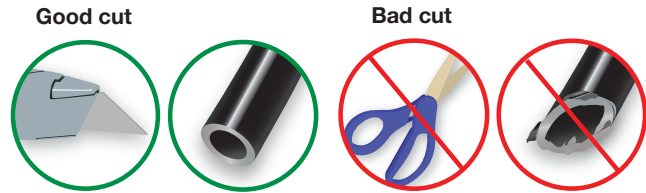

Fig. 18
- For nylon air line (\*), it is recommended that the air line be routed along the top of the frame, forward of the axle, then down to the fitting. After cutting the air line to length, install the air line thermal sleeve over the air line on the passenger's (right) side before inserting into the fitting. Secure the air lines to the upper coil spring mount with zip ties (BB) supplied.
- Cut the air line in half. Make clean, square cuts with a razor blade or hose cutter (Fig. 18). Do not use scissors or wire cutters.